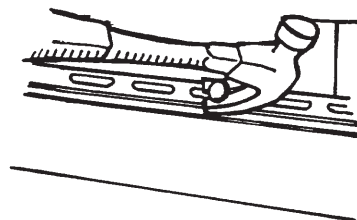

Figure 77.
- Gently bend out the upper panel. Take the nails out of the damaged panel and remove it (Fig. 77).